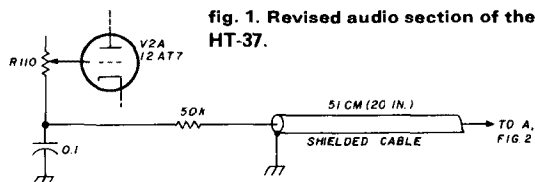

fig. 1. Revised audio section of the HT-37.
5. Solder one end of a 50k resistor to the former grounded terminal of R110, then connect the center wire of a 51-cm (20-inch) length of small shielded cable to the other end of the 50k resistor. Ground the cable shield to a convenient point inside the audio compartment. The revised audio section will then be as shown in fig. 1.
If the line is an open circuit, has a resistance of more than about 4000 ohms to ground, or has a voltage level between 1.0 and 2.4 volts, neither the high nor low LED will be energized. An unterminated TTL input will be displayed in this fashion. A summary of the logic probe's operation, with various input waveforms, is shown in **fig. 1**.